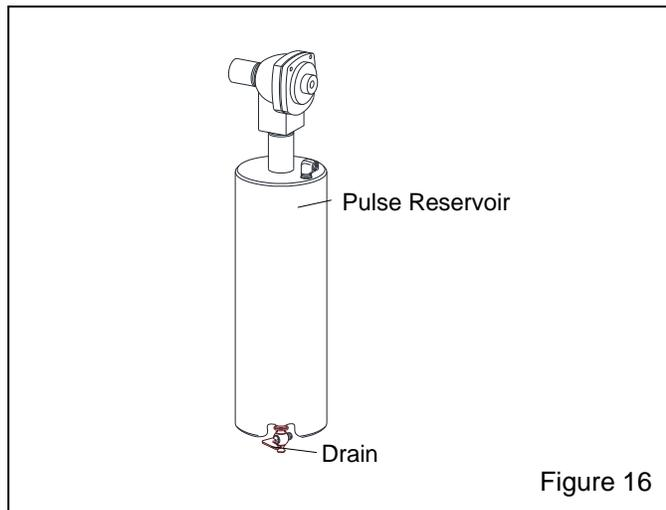

Figure 16
6.3 Pulse reservoir, Figure 16